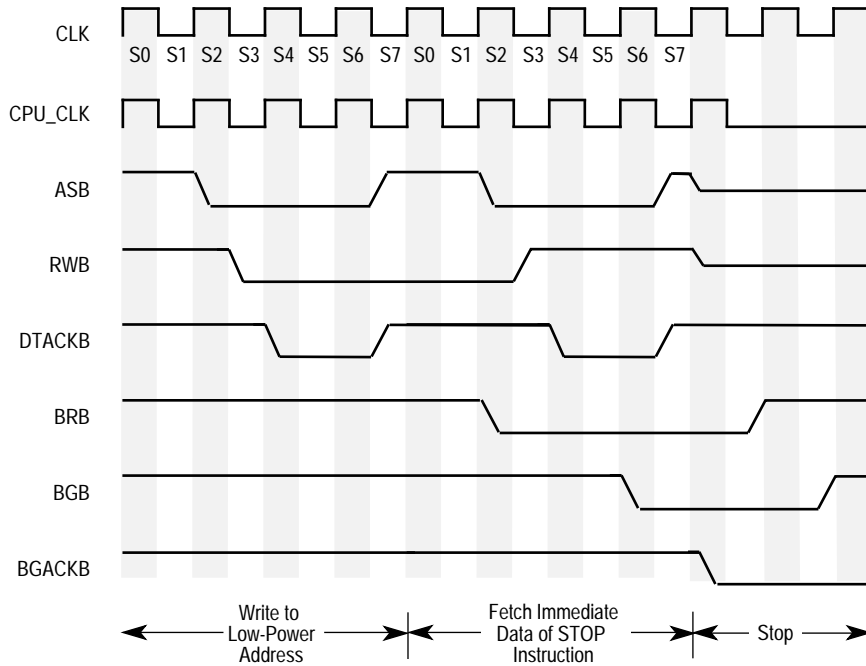

Figure 4. Clock Stop Timing with Bus Arbitration for 16-bit Data Bus
- This step is optional depending on whether the user's applications require the three-stateable signals of the SCM68000 to be put into a high-impedance state. To put the SCM68000 into a three-state condition, the proper method for arbitrating the bus as described in **3.2 Bus Arbitration** in the *EC000 Core Processor (SCM68000) User's Manual* should be completed during the fetch of the status register data for the STOP instruction. A timing diagram with the bus arbitration sequence is shown in Figure 4.